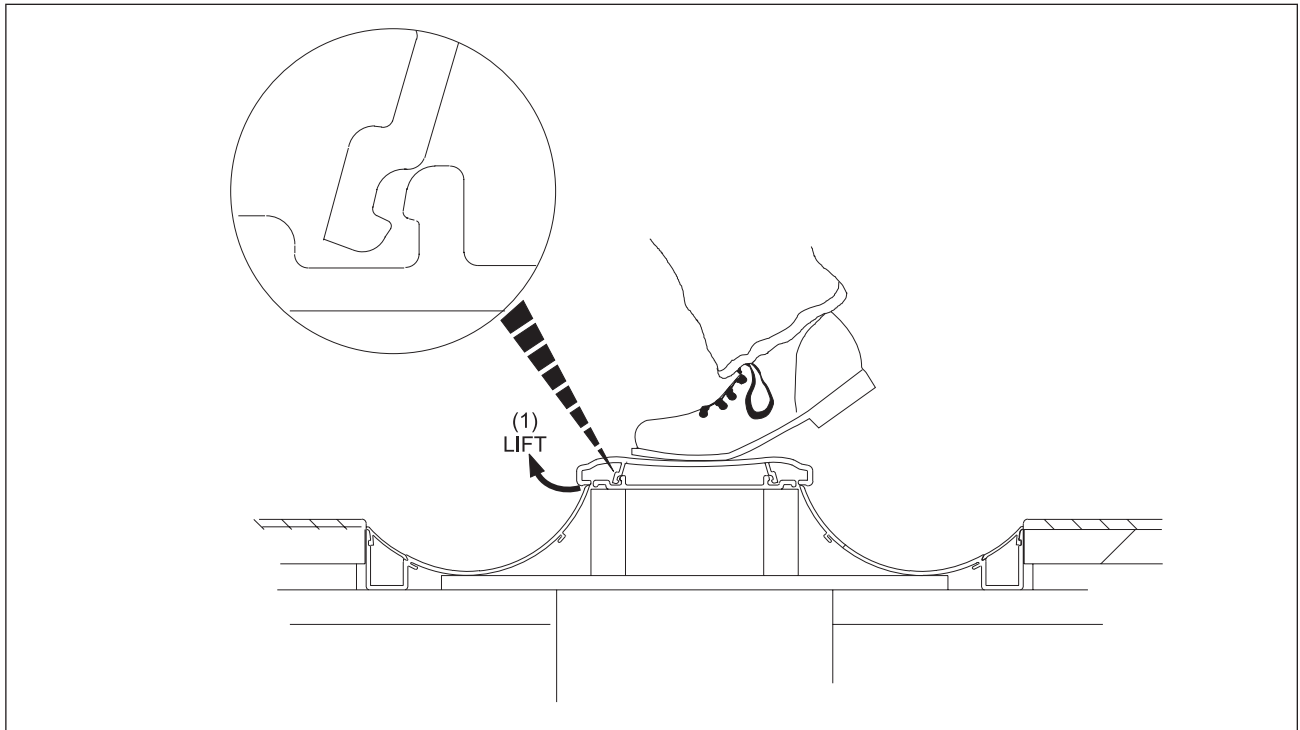

Figure 30. Flatten Ball Return Capping
1. At the end of the ball return capping, step in the middle to flatten the ball return capping. Refer to *Figure 30*.